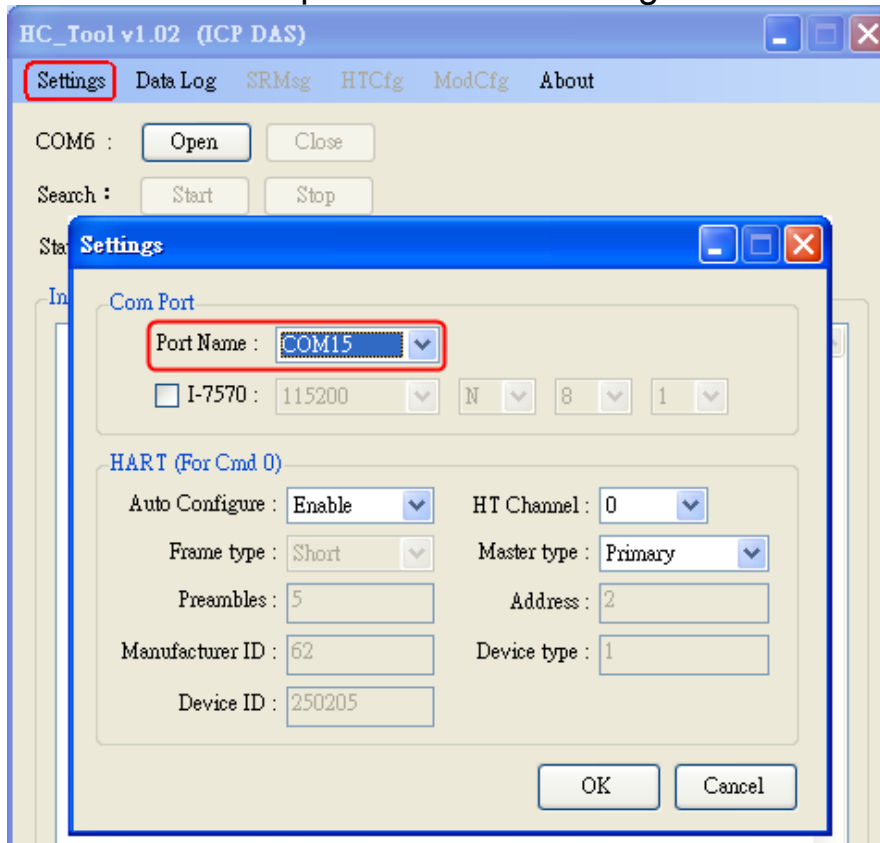

Figure 4-2: Set Serial Port No.
Please click “**Settings**” item to open setting window of serial port and HART parameters like Figure 4-2.
(1) Please select serial port no. of PC like Figure 4-2.